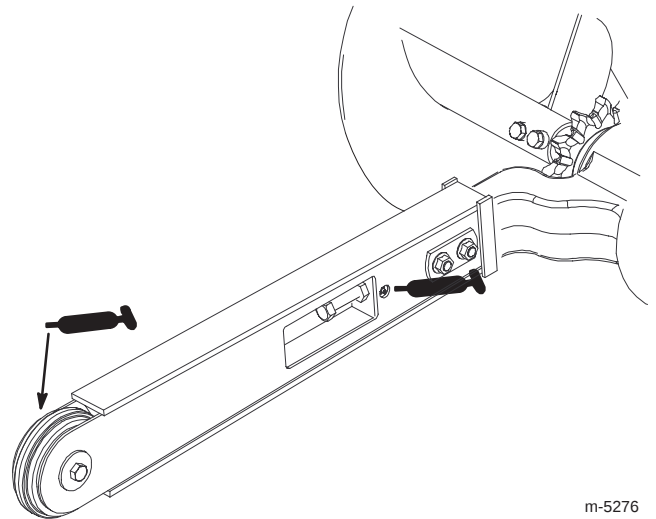

Figure 6
2. Connect a grease gun to each fitting (Fig 6).